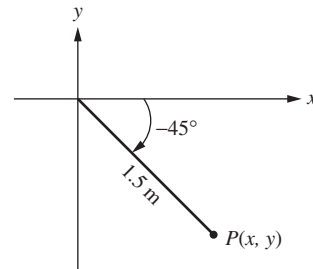

Figure P3.12 A one-link planar robot for problem P3-12.
- 3-12.** A one-link planar robot moves in the x - y plane as shown in Fig. P3.12. For the given l and θ , find the position $P(x, y)$ of the tip.